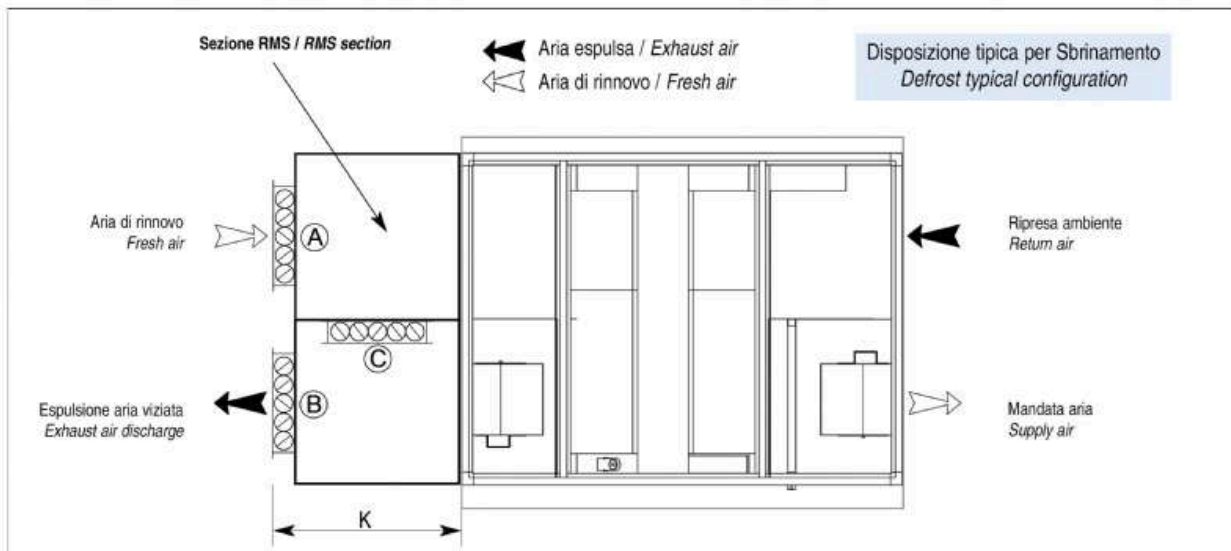

Fig.4
Sbrinamento (Fig. 4)
Defrost (Fig. 4)
(1) Connection for optional post-heating water coil BCR
(2) Note referring to the RMS accessory (see figure 4 on the previous page)
(3) Condensate drain